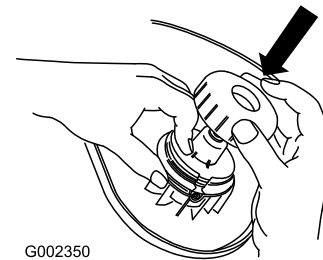

Figure 16
2. Holding the line and spool, place the cap over the spool (Figure 16).